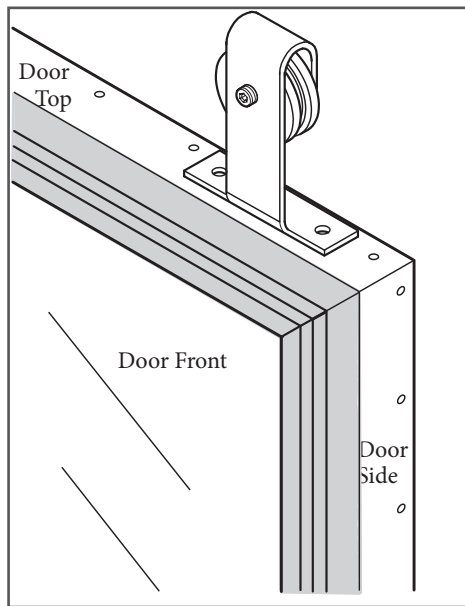
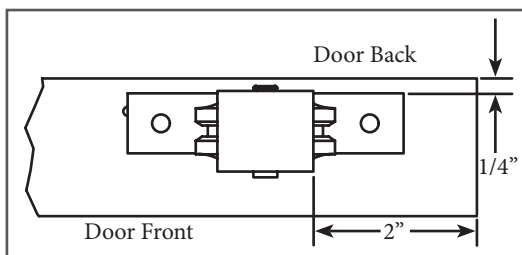

Figure 1
Figure 1A
1. Place the hanger (A.) on the top surface of the door 1/4" from the back edge of the door and 2" from the door side. Ensure the front of the hanger and the front of the door are facing the same direction (Figure 1 and Figure 1A).